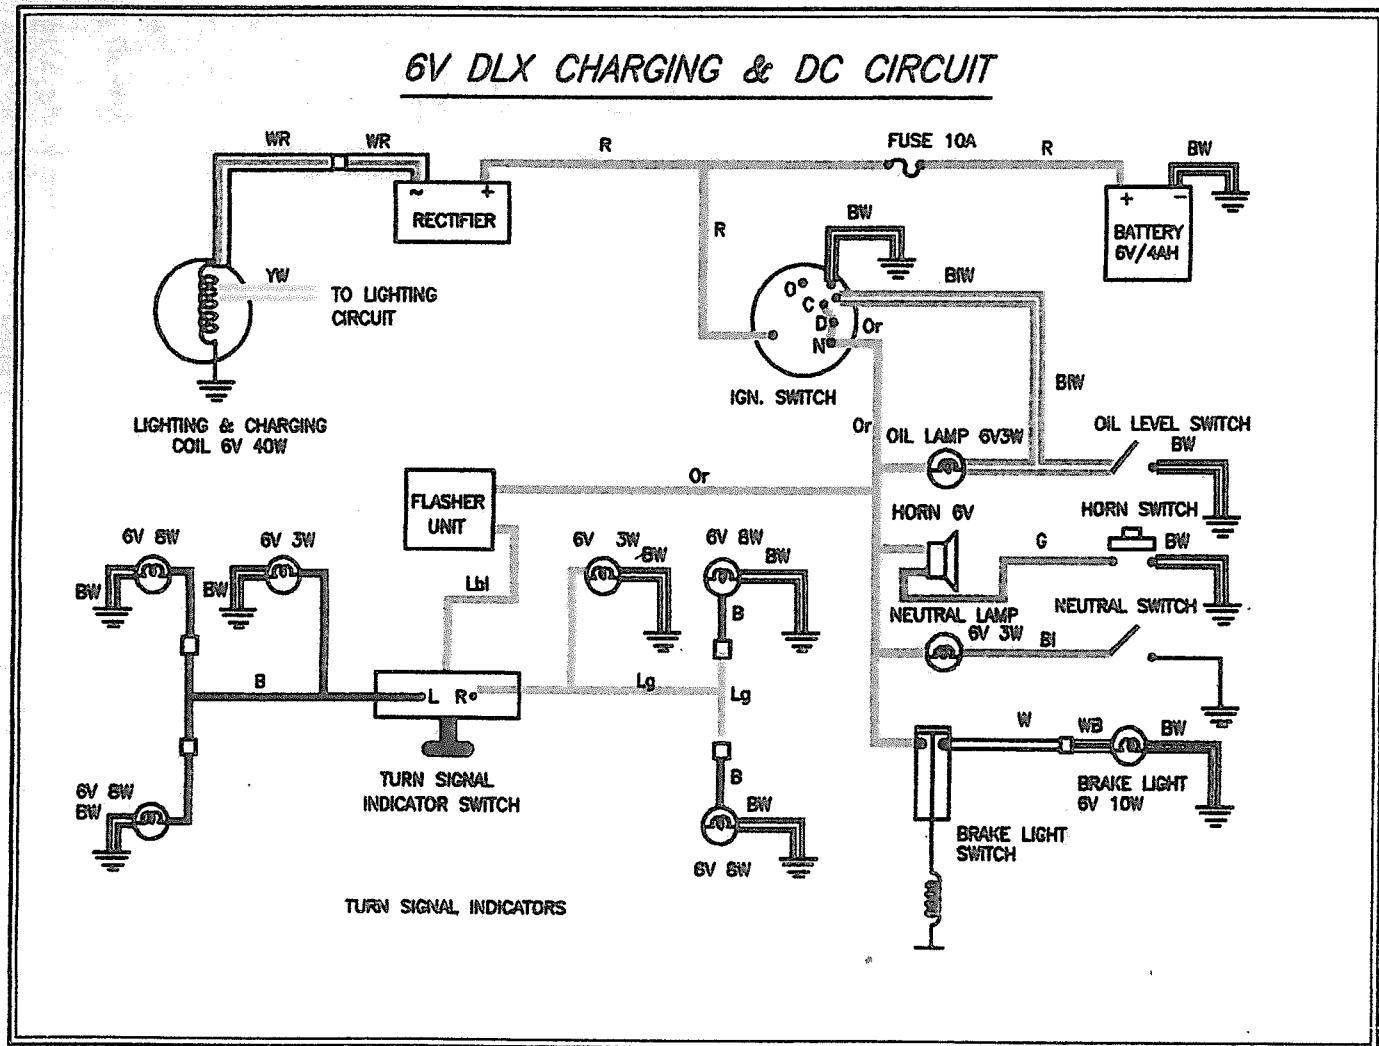
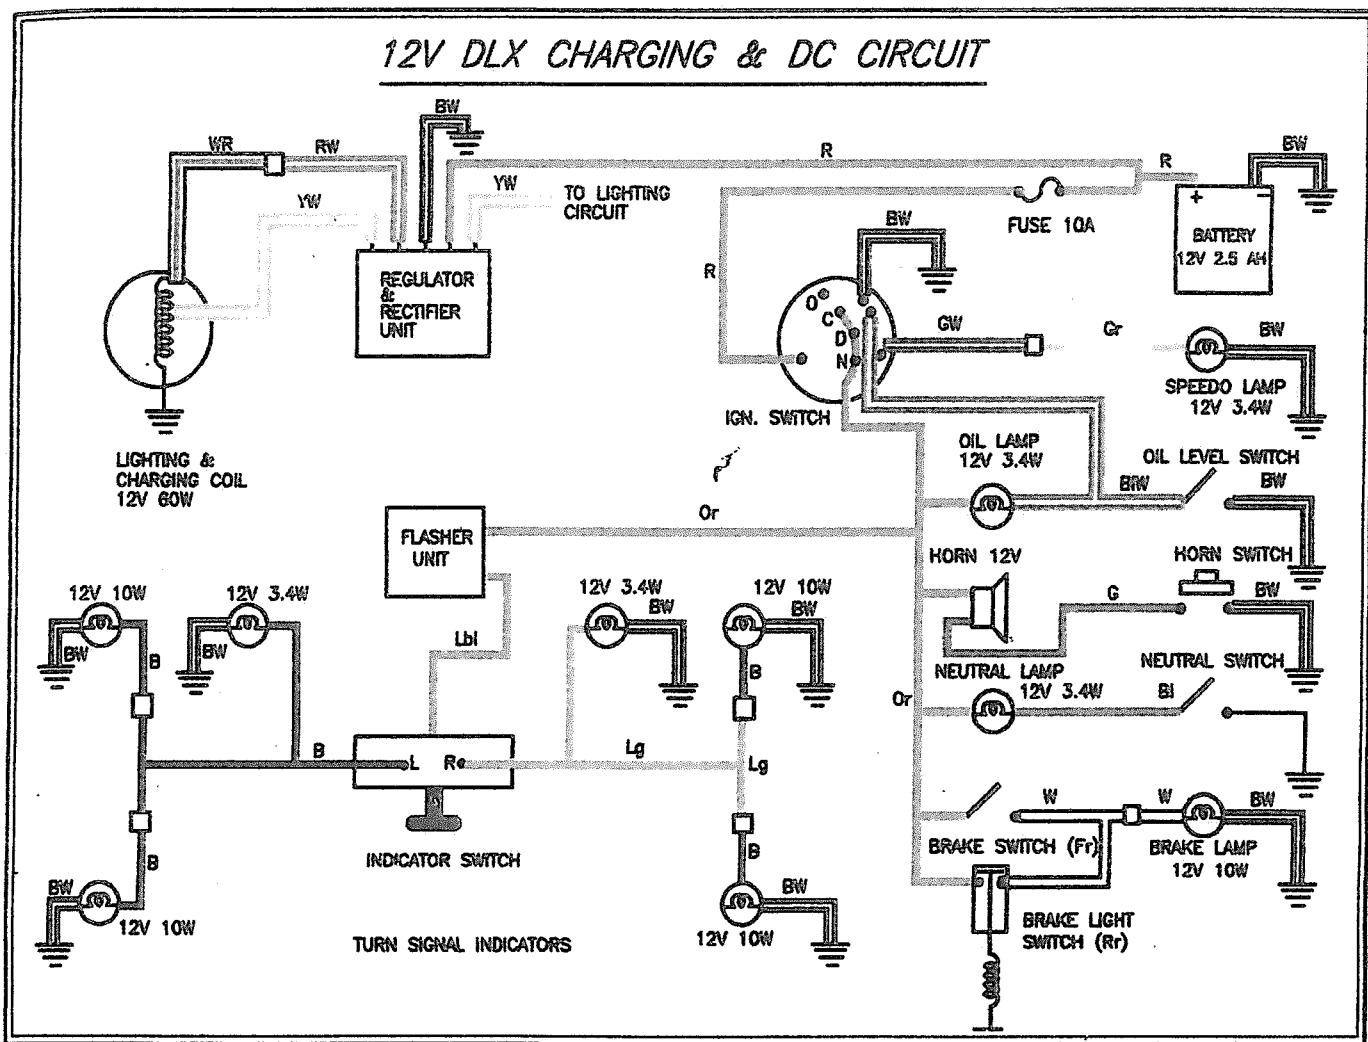

Fig 5.7
Fig 5.7A
The charging system uses the flywheel magneto as shown in figure (fig 5.7). The charging/lighting coil is mounted on the stator and generates Alternating Current (AC) as the flywheel rotor turns. Alternating Current (AC) generated in the charging coil flows to the rectifier in 6V and RR unit in 12V where it is converted to Direct Current (DC). This Direct Current (DC) serves to charge the battery which is in turn connected to the horn, turn signal light, brake light, neutral indicator light, turn signal indicator lights, oil level indicator light and speedo meter light in 12V (fig 5.7A).